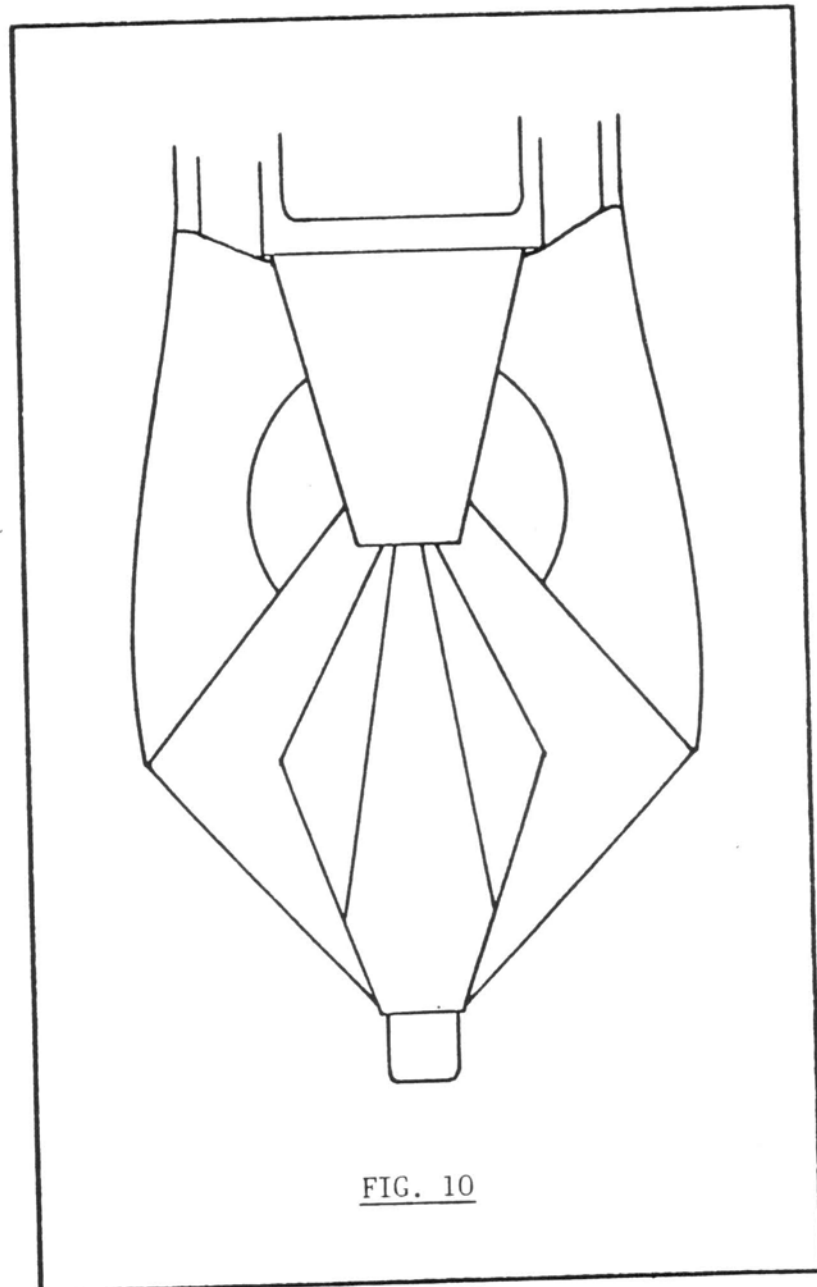

FIG. 10
12) The pilot chute fabric extending upward from under the top plate can now be pushed into a narrow, loose roll and placed in the space just under the top closing flap between the folds of canopy. Be careful not to tuck any of this pilot chute fabric back under the side flaps; this would tend to retard the launch of the pilot chute. Close the top flap and secure it with the ripcord pin. (Be sure that your temporary pin is accounted for at this time!) (FIG. 10) Insert the ripcord handle into its velcro pocket just below the chest strap on the inboard edge of the left main lift web.